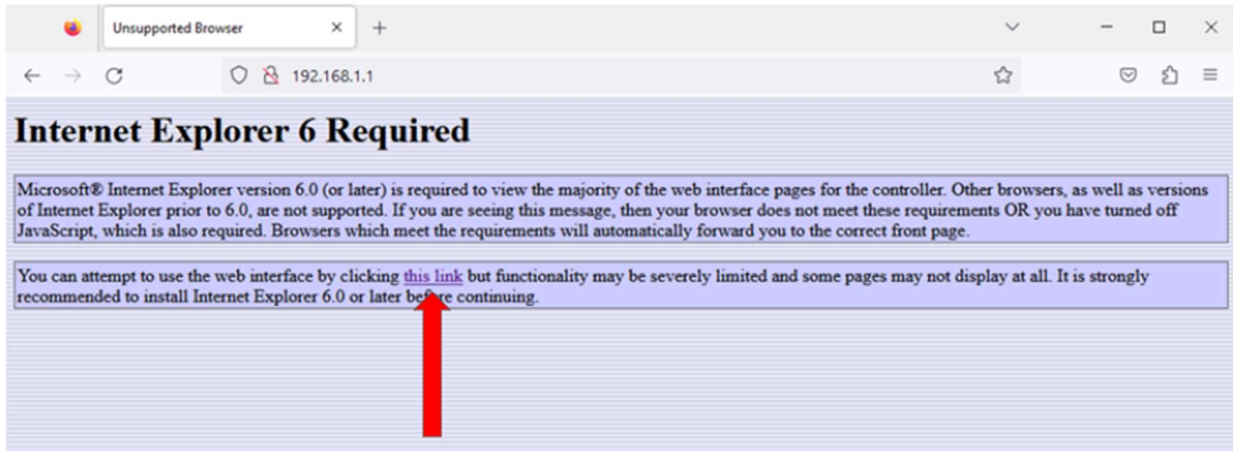
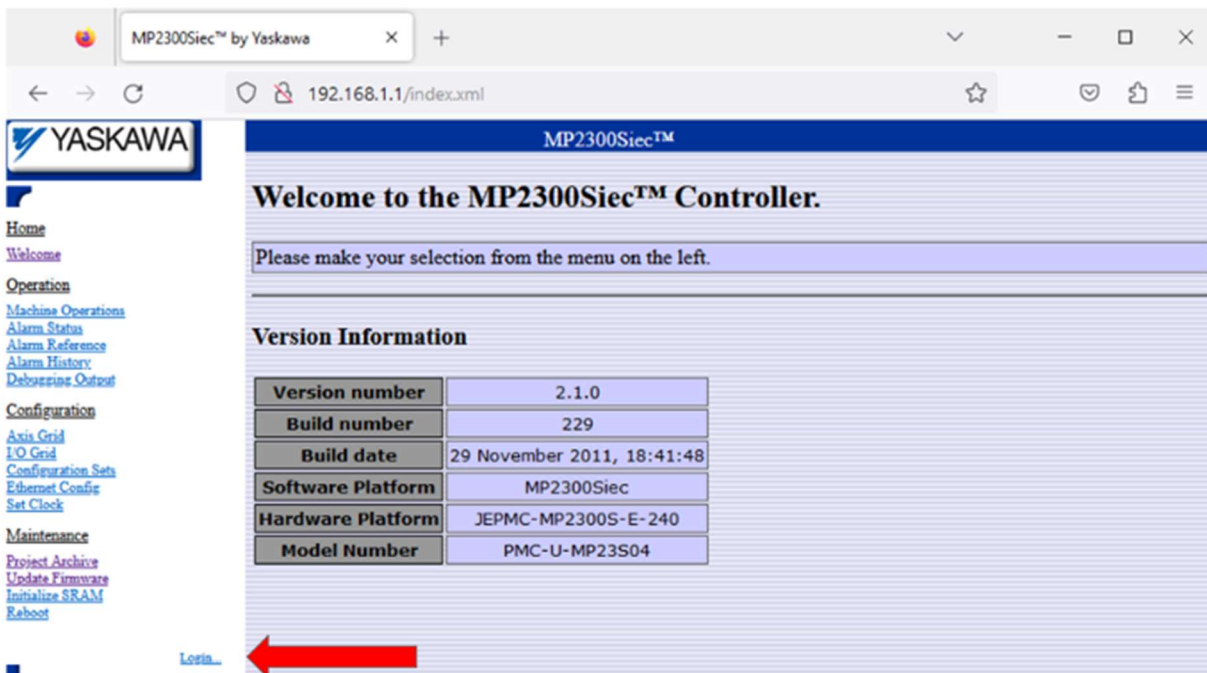

Figure 13: Unsupported Browser Page with Arrow to Link
Figure 14: Controller Home Page with Arrow to Login
- Once there you may receive an error message like Figure 13, but just click the link and it should work fine and take you to the window seen in Figure 14.